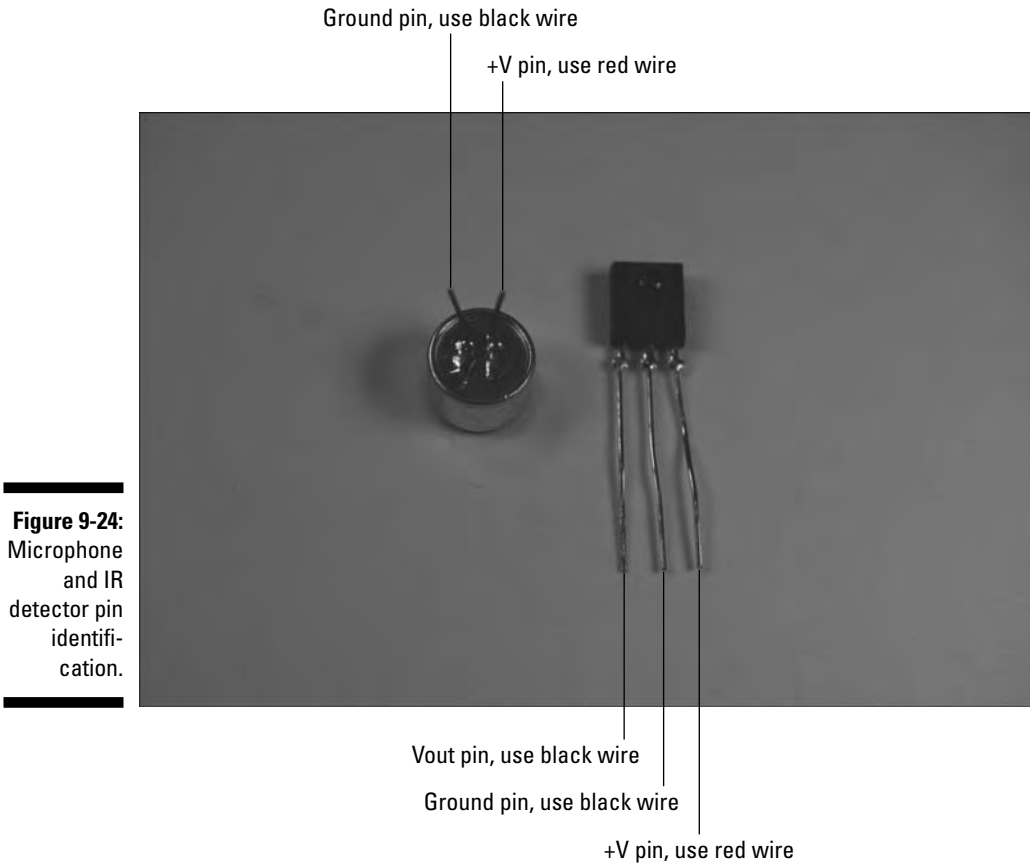

Figure 9-24:
8. **Connect a 6" red wire and a 6" black wire to the microphone pins, as indicated in Figure 9-24. Then solder them, as shown in upcoming Figure 9-25.**
9. **Connect a 6" red wire and two 6" black wires to the IR detector pins, as indicated in Figure 9-24; then solder them, as shown in upcoming Figure 9-25.**